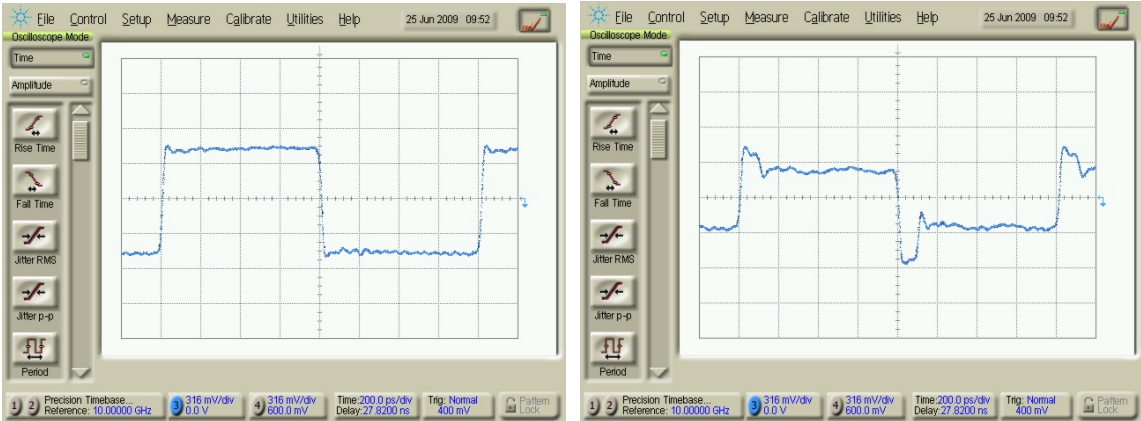
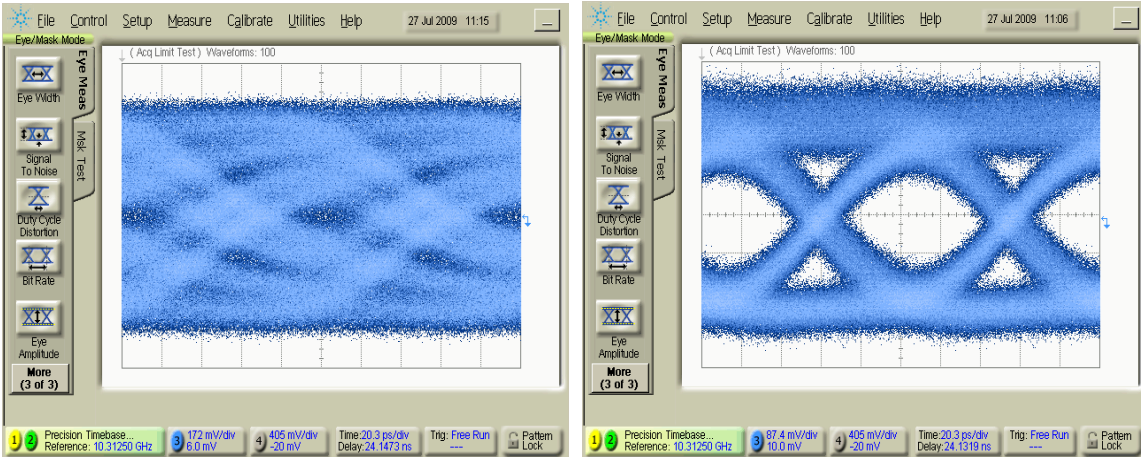

Figure 19. Pattern with 0dB and 6dB de-emphasis applied
Figure 20. Real world eye waveform through a lossy channel with 0 dB and 6 dB de-emphasis applied
9. Figure 19 shows a pattern with 0 dB and 6 dB of de-emphasis applied. Figure 20 shows an example of an eye waveform at the end of a long trace on an FR4 circuit board with 0 dB de-emphasis, and the same signal cleaned up by applying 6 dB de-emphasis.